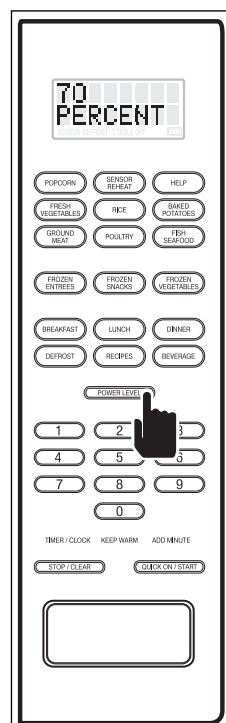

Figure 3-31.
2. Press the POWER LEVEL key in multiple key strokes until the desired power level is shown on the display *(in this example, four key strokes for 70% power)* (See Figure 3-31). After the last POWER LEVEL key stroke, the display will flash “70 PERCENT - PRESS START”.